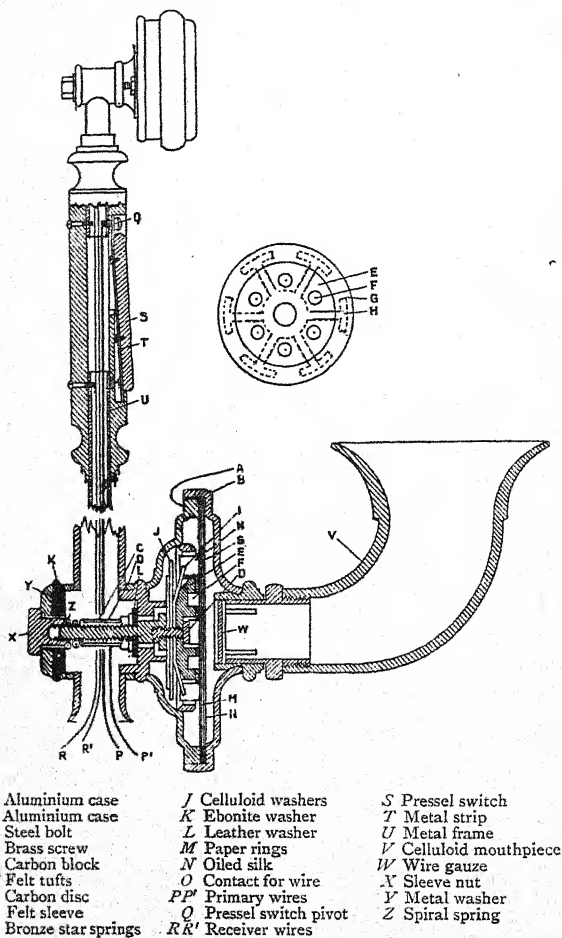

FIG. 42.
**The Ericsson.**—This is considered to be a very successful microphone, and is extensively used in the service. It is usually fixed to a combined hand micro-receiver, as in Fig. 42. A description of the receiver portion will be given later. There are several forms to be met with, but Fig. 42 gives a sectional view of the latest. A and B comprise the aluminium case, which is made in two parts; passing into the back of the case A is a small steel bolt, C, the head of which has screwed into it the brass screw D, which holds in position a carbon block, E, that is recessed for the reception of the screw. The front face of this block has several holes drilled in it, into which tufts of felt, F, are fitted. When in position these tufts press against a carbon disc, G. A sleeve of soft felt, H, is fitted around the edge of the carbon block, and is made to press against the carbon disc by the heads of six bronze springs, I, which are all joined together at the centre, as shown in Fig. 42, which shows an end elevation of the carbon block. This spring fits into six recesses in the carbon block, which allows it to work freely.